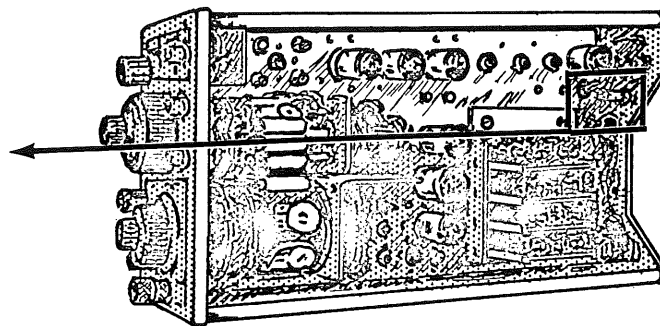

Figure 1-44
2. Adjust the Trigger Threshold, R110 - See Figure 1-44, so the trace free runs.